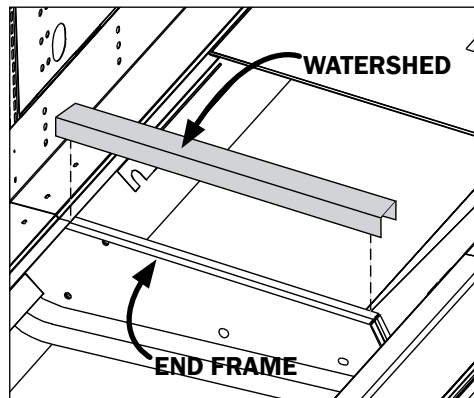

Fig. 8 Sealing the pipe chase
6. Apply case-to-case watershed (supplied) over the end frame seam (Fig. 8). The watershed prevents water from settling in the case joint.
1. After the main power cord (Fig. 8) located at the base panel of the case is plugged in and the power switch (Fig. 11) flipped to ON the case should begin normal operations.